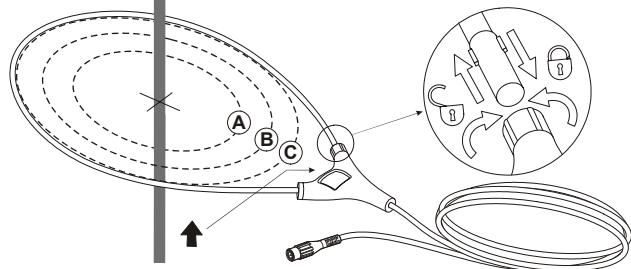

Figure 1. Connecting the flexible probe around the conductor.
• with position of conductor in the probe window (see figure 1): A = 12.7 mm (0.5 in) B = 20.3 mm (0.8 in) C = 35.6 mm (1.4 in) • 0.5 to 30 A	±0.5% of reading ±1.0% of reading ±2.0% of reading ±1 count or 0.1 A (whichever is greater)
2. Connect the flexible probe around the conductor (See Figure 1.)